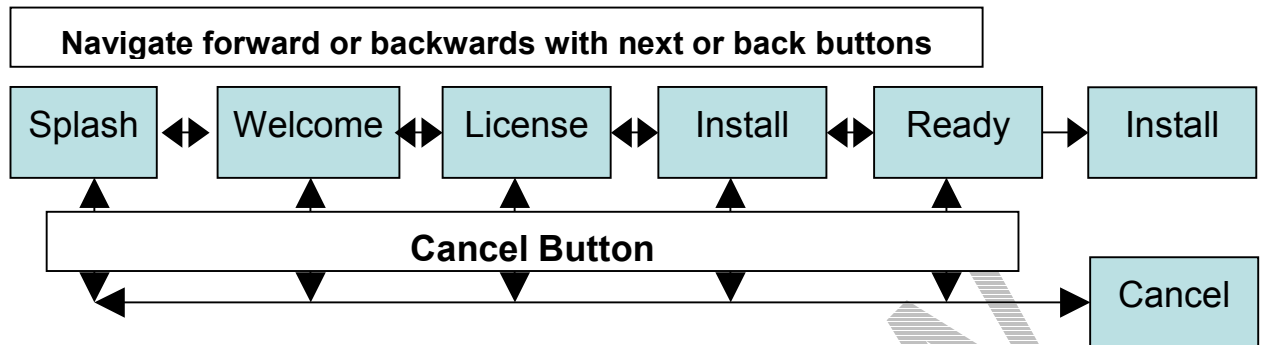

Figure 2 – Software installation Flow
4.3.3.2 The installation shall follow the procedure shown in Figure 2 after the installation icon is double clicked.